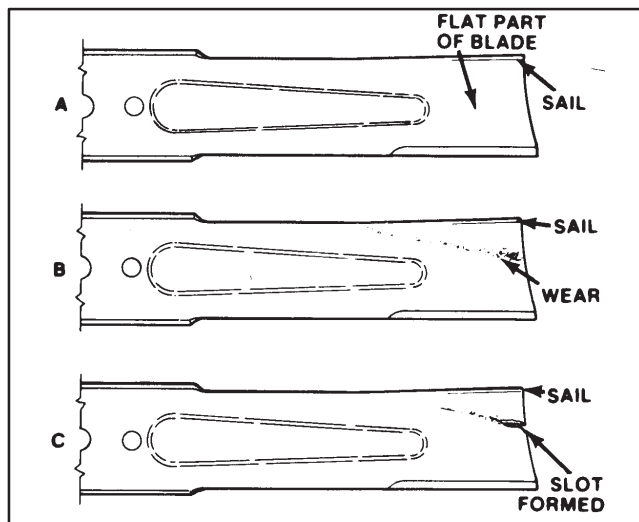

Figure 32
4. Examine cutting ends of the blade carefully, especially where the flat and curved parts of the blade meet (Fig. 32-A). Since sand and abrasive material can wear away the metal that connects the flat and curved parts of the blade, check the blade before using the machine. If wear is noticed (Fig. 32-B), replace the blade: refer to Removing Cutter Blade.
If blade is allowed to wear, a slot will form between the sail and flat part of the blade (Fig. 32-C). Eventually a piece of the blade may break off and be thrown from under the housing, possibly resulting in serious injury to yourself or a bystander.